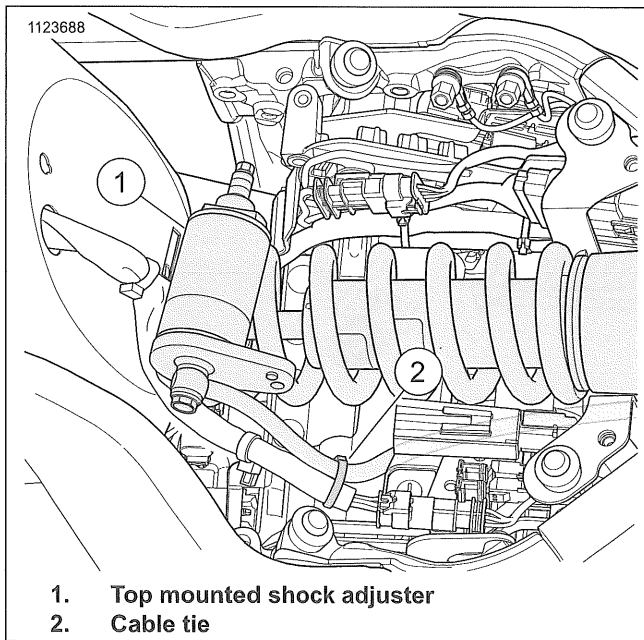

Figure 3-89. Top Mounted Shock Adjuster
4. Models with top mounted shock adjuster under the seat. See Figure 3-89. Remove cable tie (2) from shock adjuster hose to fender harness.
3. See Figure 3-89. Models with top mounted shock adjuster (1). Install cable tie (2).